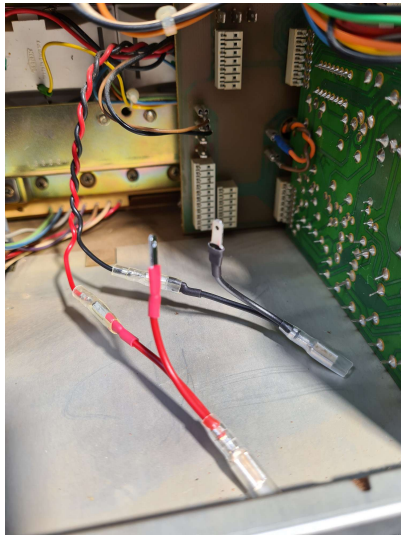

Figure 8
- Reconnect the red and black twisted cable to the adapter. (Figure 8)